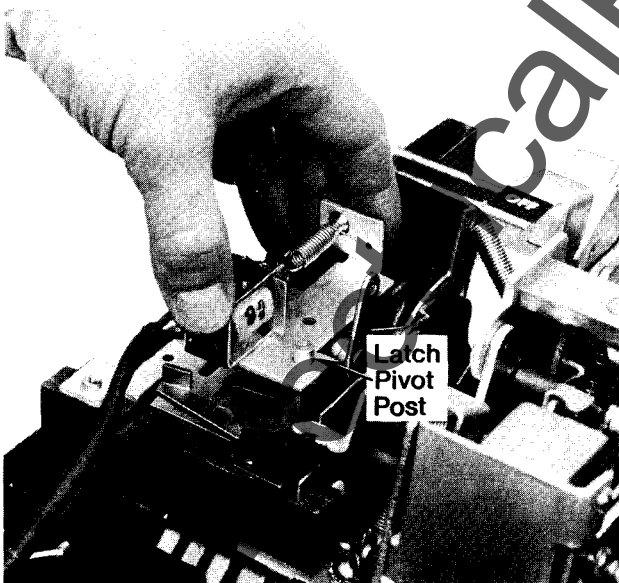

Figure 35.
5. Position the UVR assembly mounting bracket so that its retaining hole engages the latch pivot post as shown in Fig. 35.